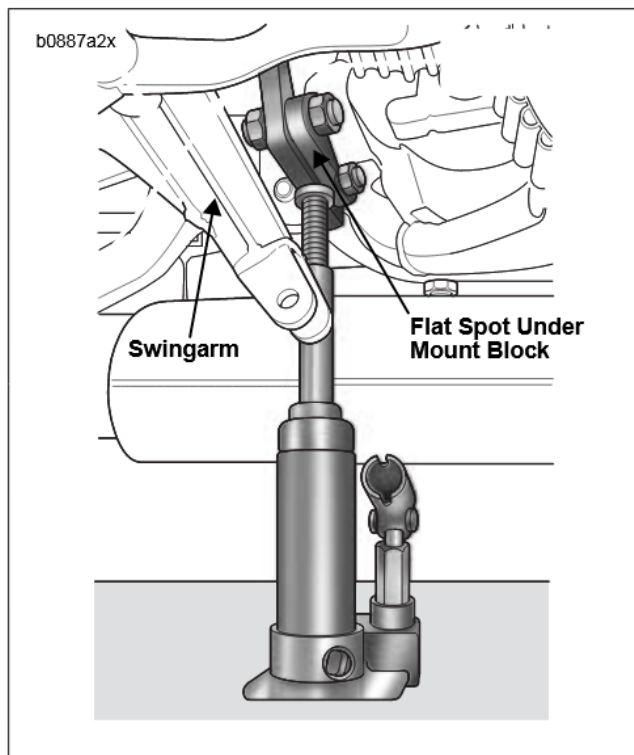

Figure 1. Jack Location on Mount Block (Shock Removed for Clarity)
4. See Figure 1. Place a suitable jack under the swing arm mount block and raise until crankcase is supported by jack for the purpose of unloading the shock absorber.